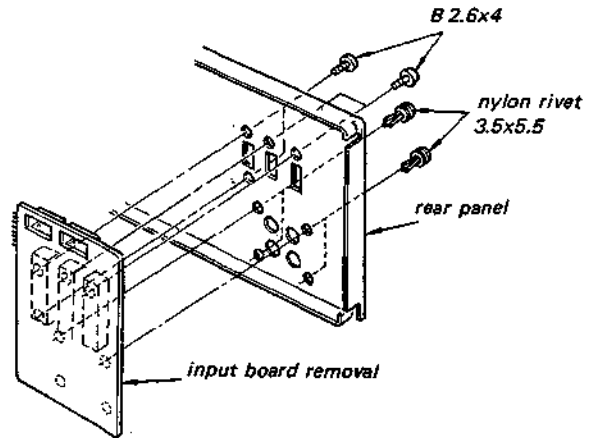

Fig. 1-13. Input board removal
2. Remove the screws and nylon rivets shown in Fig. 1-13.